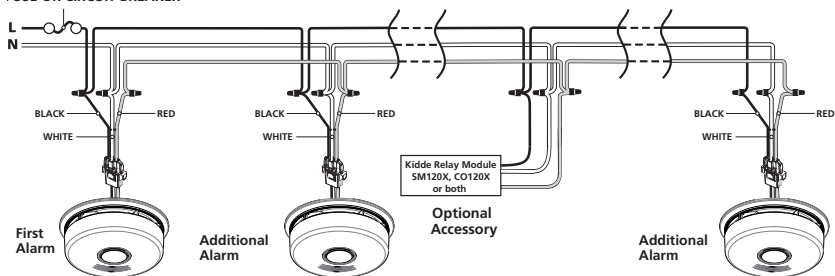

Figure 9-A, Interconnect Wiring Diagram
- For best results to minimize nuisance alarms, interconnected alarms should be on a dedicated line. If not on a dedicated line, it is suggested that the smoke alarms share a lighting load circuit that does not have a dimmer associated with it. If receptacles must be placed on the same line it is suggested that they be placed ahead of the smoke alarms (see Figure 9-C). This will prevent large voltage drops from occurring between the first and last alarm in the circuit.